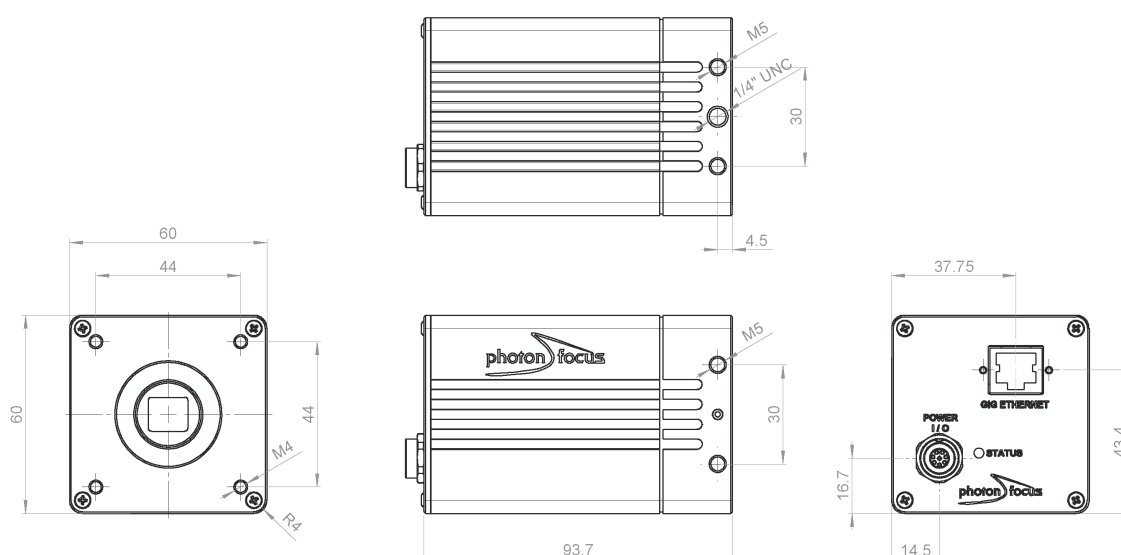

Figure 6.1: Mechanical dimensions of the GigE camera, displayed without C-Mount adapter
Fig. 6.1 shows the mechanical drawing of the camera housing for the MV1-D1312(I) CMOS cameras with GigE interface. Note, that the depth of the camera housing is given without the C-Mount adapter, which will add up 5 mm to the housing depth of 94 mm.